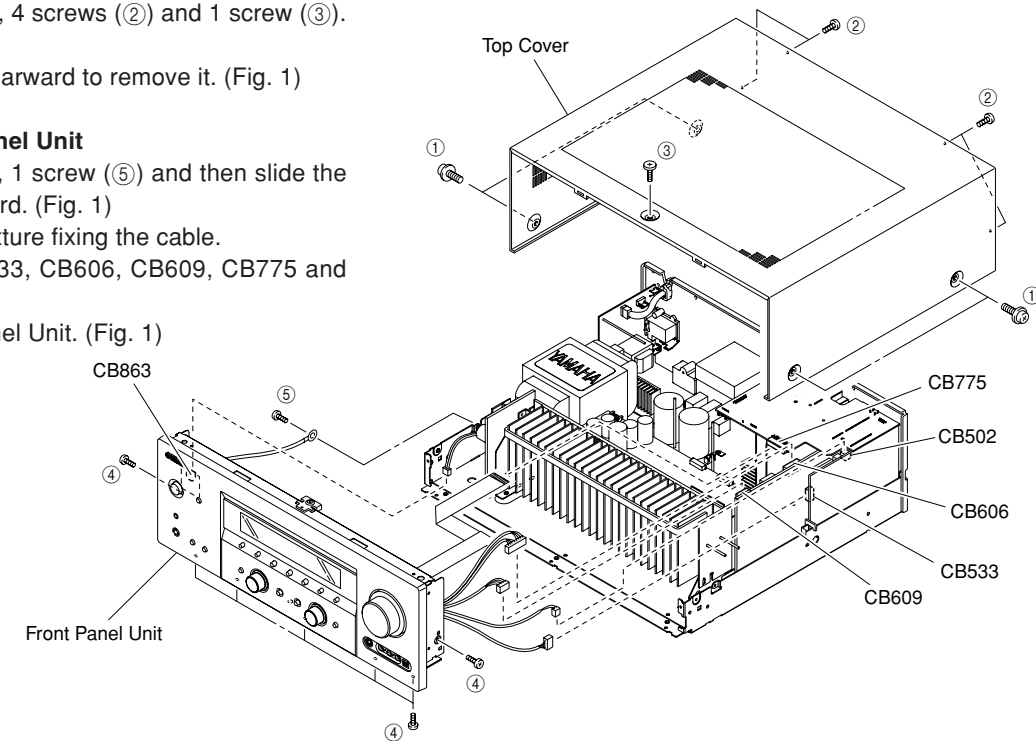

Fig. 1
- a. Remove 4 screws (1), 4 screws (2) and 1 screw (3). (Fig. 1)
- b. Slide the Top Cover rearward to remove it. (Fig. 1)
- a. Remove 7 screws (4), 1 screw (5) and then slide the Front Panel Unit forward. (Fig. 1)
- c. Remove CB502, CB533, CB606, CB609, CB775 and CB863. (Fig. 1)
- d. Remove the Front Panel Unit. (Fig. 1)
**4. Operation check of MAIN (2) P.C.B.**
- Remove the Top Cover. (Fig. 1)